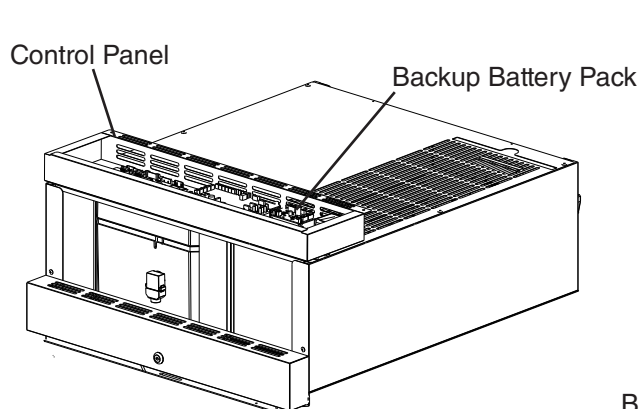

Fig. 4
- 1) Remove the control panel, then being careful not to pull the wires, rotate the control panel up on top of the top panel. See Fig. 4.